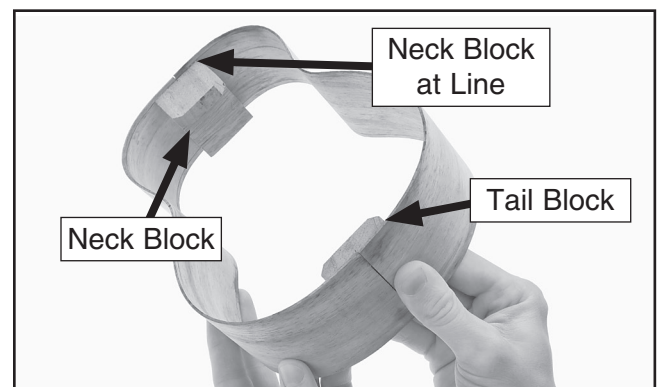

Figure 5. Lining up marks for the tail block before clamping and gluing.
6. Ensure that all marks accurately line up, as shown in **Figure 5**.